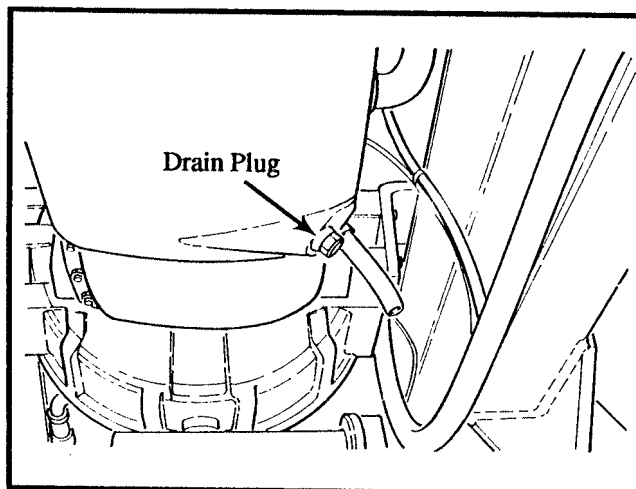

Figure 10-2. Engine Oil Drain Plug
1. Remove drain plug from the bottom of the engine crankcase to drain oil. Refer to Figure 10-2.